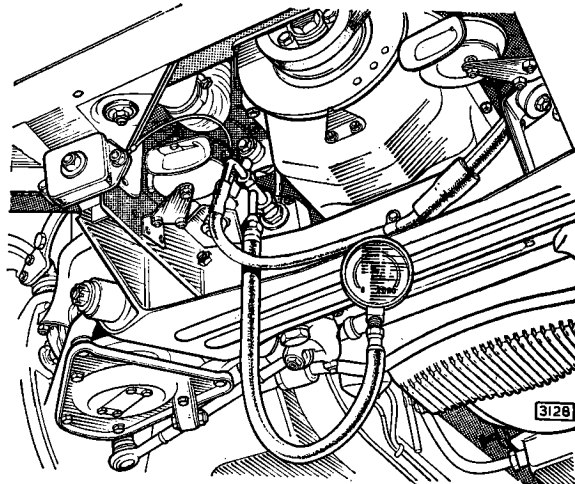

Fig. 33. Insert the pressure gauge in the union at the base of the steering box
- (a) Insert the pressure gauge in the union at the base of the steering box (see Fig. 33). Pressure should be 1,000 lb. per sq. in. (70.3 kg. per sq. cm.) with engine at 1,000 r.p.m. and wheels against stops. If the pump is not delivering oil under pressure, it may be due to one of the following causes :—